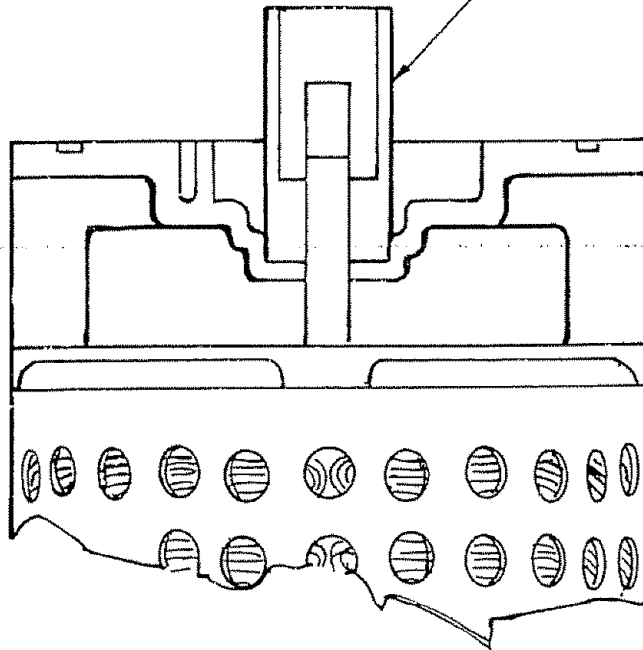

FIGURE 37
2. Remove spray arm nut, washer, spray arm, and sump cover if used. (2)
- 3 Remove upper pump housing (diffuser) (3)
- 4 Remove upper impeller, macerator blade, spacer plate, and pump plate (4)
- 5 Remove lower impeller and seals (5)
- 6 Detach motor and pump housing assembly cover, and gaskets from tub (8 screws) (6)
- 8 Install housing in same position on replacement motor. *IMPORTANT! The motor shaft must be accurately centered in the pump housing for proper operation of the pump. To assure precise centering, use Service Tool 803923 as illustrated in Figure 37, before tightening thru bolts* (Available through Sears Parts Department.)
- 9 After the pump housing has been secured to replacement motor, it is necessary to determine the correct number of shim washers to be used between the lower impeller and the motor shaft. *Shims are required to insure correct mating pressure of the water seals.* To determine the number of shims required, hold shim gauge (furnished with kit) firmly on surface of pump housing as shown in Figure 37 (Note: Shim gauge should not be on top of gasket)